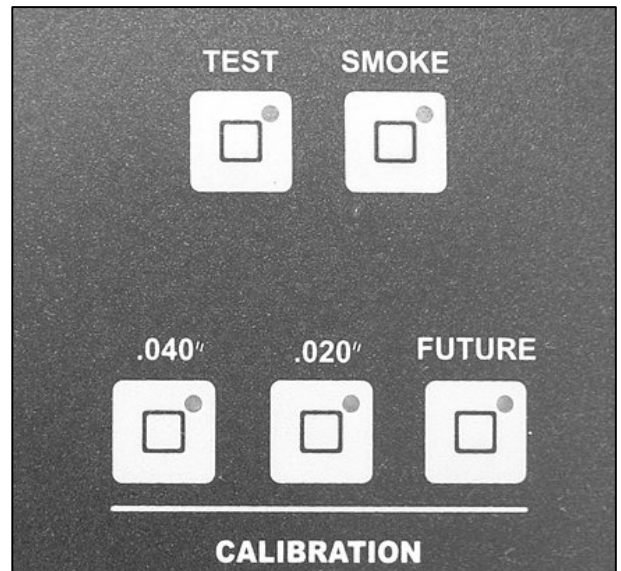

Figure 1
10. **Function control buttons:** These buttons, along with the vacuum-decay (#12) function button, are the Tester's main system controls. (Figure 1)